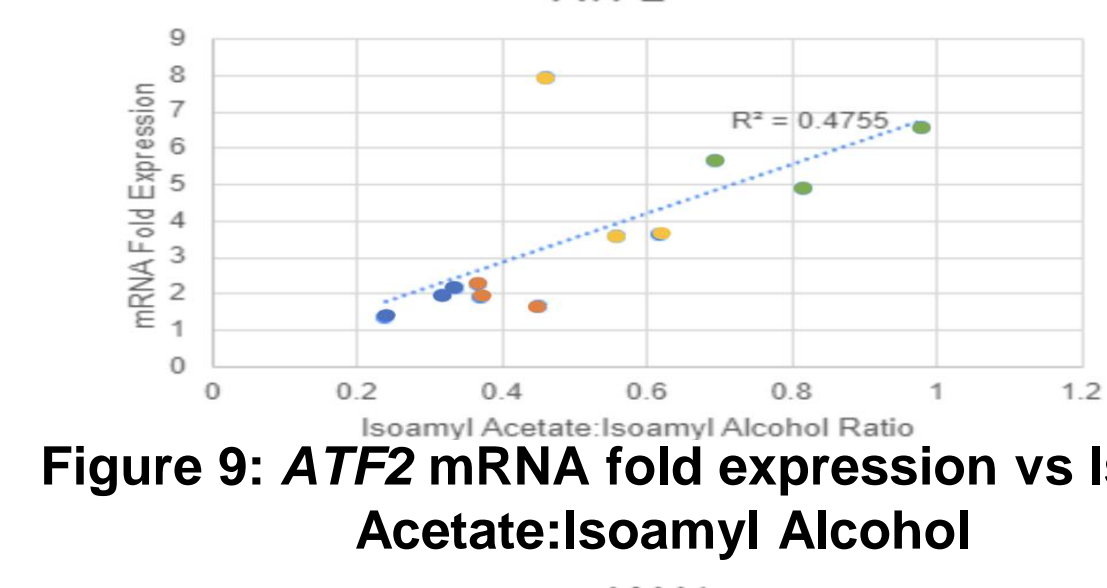

Figure 6: Relative ATF2 Gene expression
- ❖ Figure 6: There was significant difference between beer types.